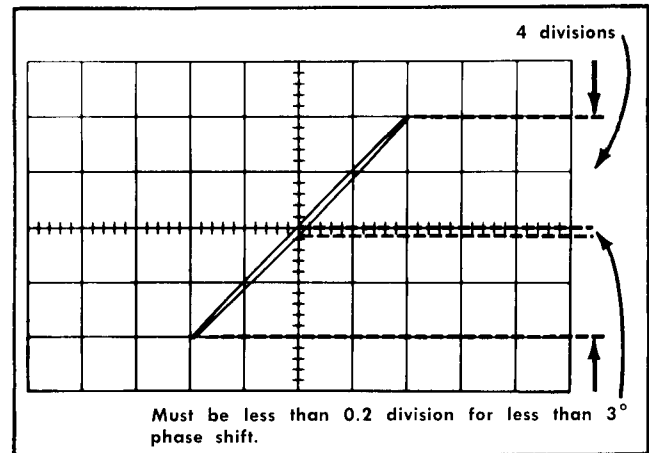

Fig. 5-10. Typical crt display when checking phase shift.
- Check—Separation of displayed waveform along vertical centerline (see Fig. 5-10) not to exceed 0.2 division (3° phase shift).